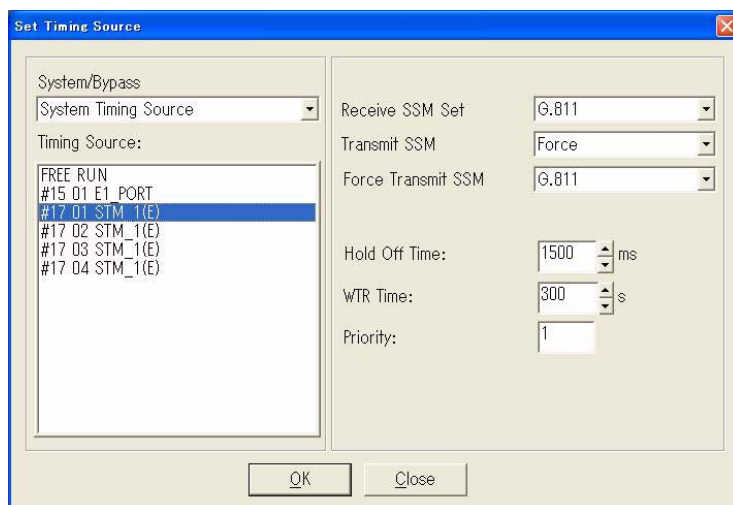

Fig. 4-4-5 Set Timing Source Dialog Box (for Addition)
- 3 Click the **Add** button on the upper left of the **Setup-Timing Source Configuration** dialog box. The **Set Timing Source** dialog box shown in *Fig. 4-4-5* appears: